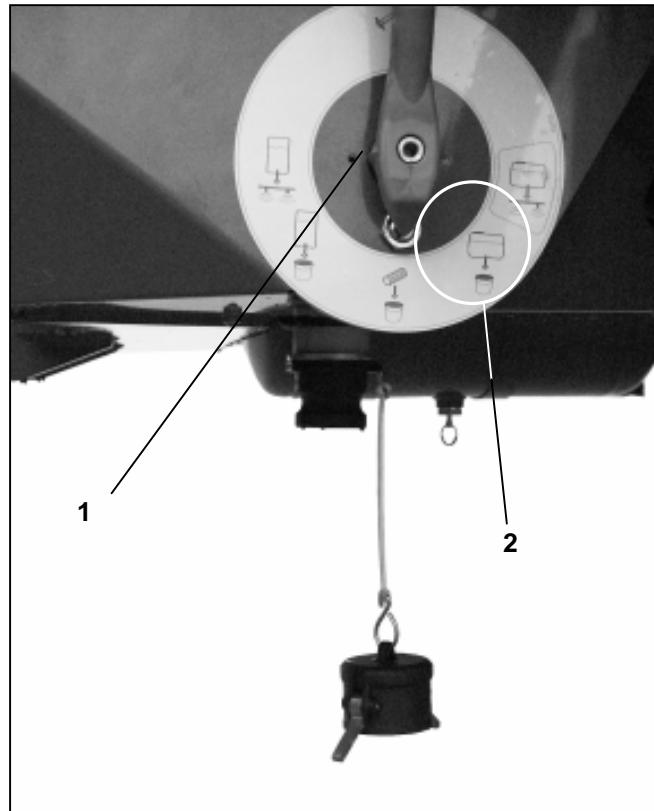
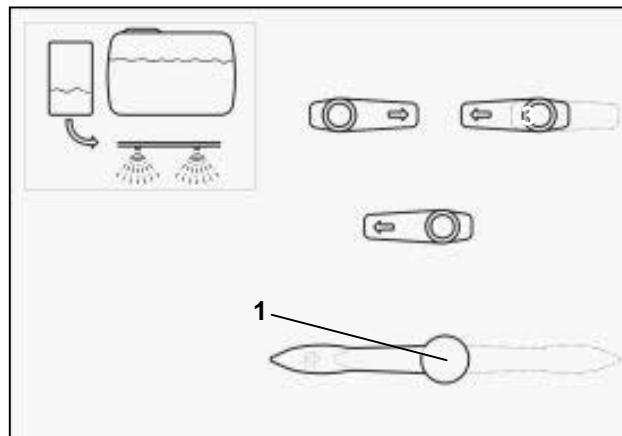

Fig. 7.21
Fig. 7.22
Swivel the multiple-way tap (Fig. 7.22/1) to position "drain off" (Fig. 7.21/2) to drain off into a suitable collecting container any diluted surplus amount.
- 3-way taps in position "flushing" (Fig. 7.22).